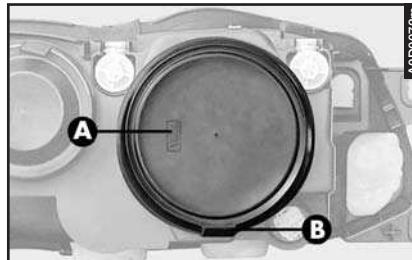

fig. 39
- Remove the rubber cap (**A**- **fig. 39**) by pulling the tab (**B**).